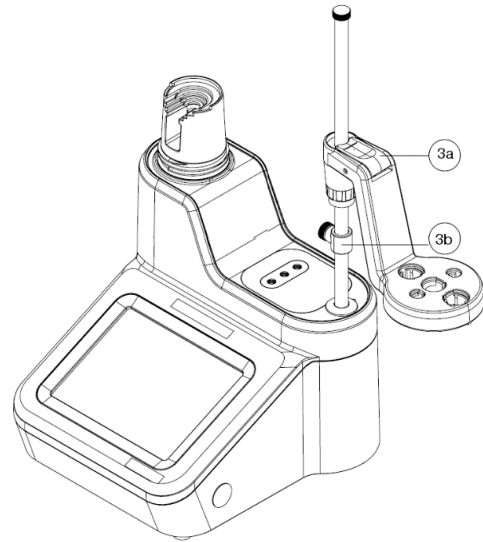

Figure 4. Positioning the Electrode Holder
3. Adjust the Electrode Holder Head location on the Electrode Holder Shaft by pressing the release button (3a) and sliding it to the appropriate location on the shaft. Refer to **Figure 4**.